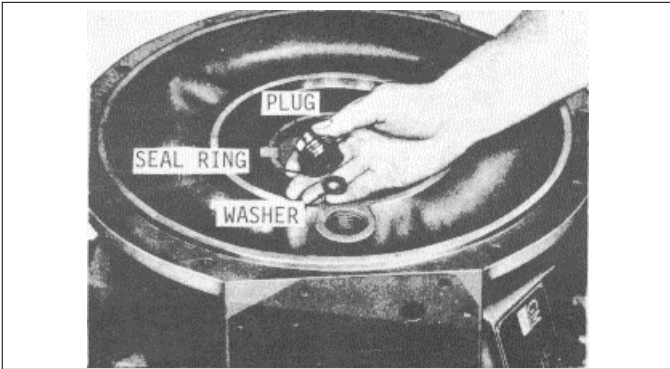

Fig. 15
- (a) Remove the square-head plug, seal ring, and lock washer from the rear of the converter housing (Fig. 15).
- (e) Install the lock washer, seal ring, and square-head plug (Fig. 15) into the oil pump idler gear shaft bore. Torque the plug 80-100 ft/lb.